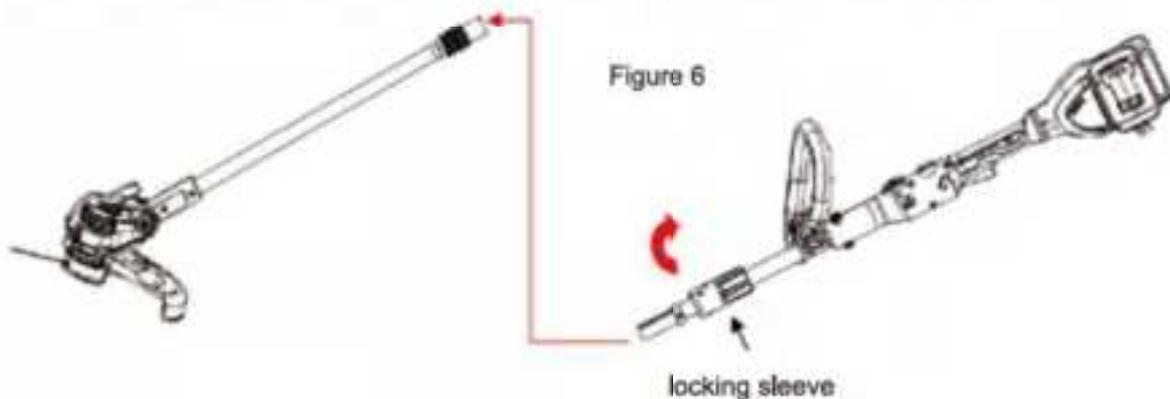

Figure 6
- Connect the upper and lower aluminum tubes in the direction shown by the arrows in Figure 6
- Rotate the lock sleeve in the direction of the arrow in Figure 6 until the lock is fully reliable.